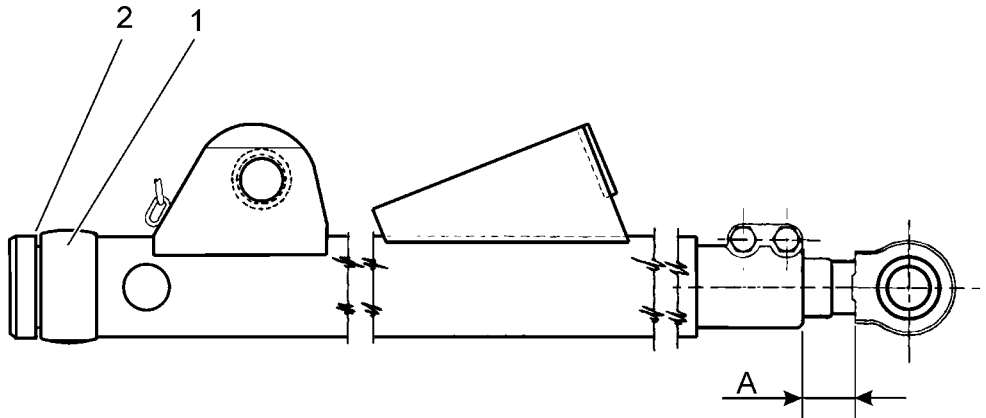

Fig. 4.29. Lower Strut Adjustment of the Angled Blade.
**NOTE:** This adjustment is made such that gaps are provided as shown in Figs. 4.29 and 4.30.